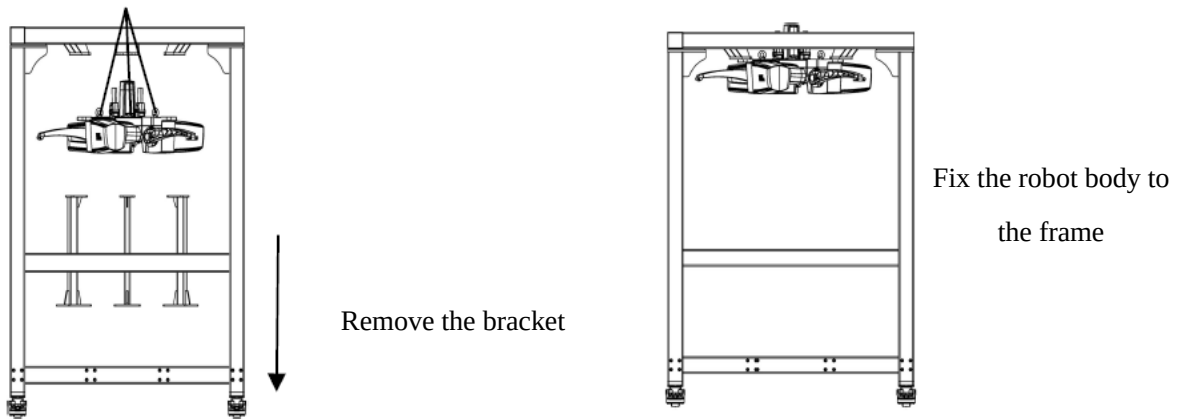

Figure 3.1.9 Diagram of body robot lifting and installation
3) Attach the rope/sling to the hook, slowly lift the body about 0.5 m from the ground with a crane, remove the bracket, slowly lift the equipment close to the frame fixing plate, and fix the body robot to the frame with screws and spring washers removed from the bracket, as shown in Figure 3.1.9.